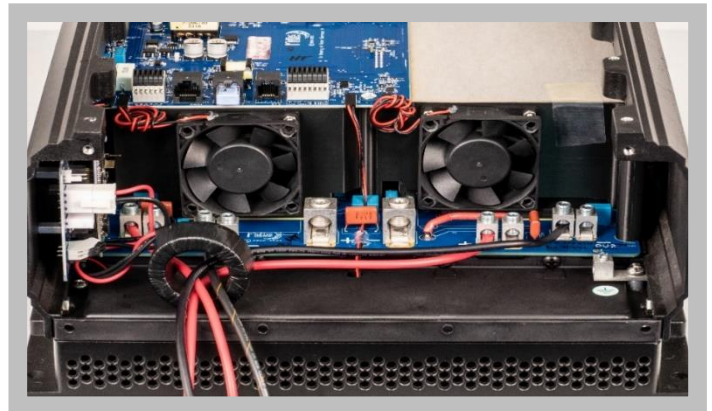

Figure 12
3. Pass all **PV+** AND **PV-** wires through the GF toroid, as shown in **Figure 12**.